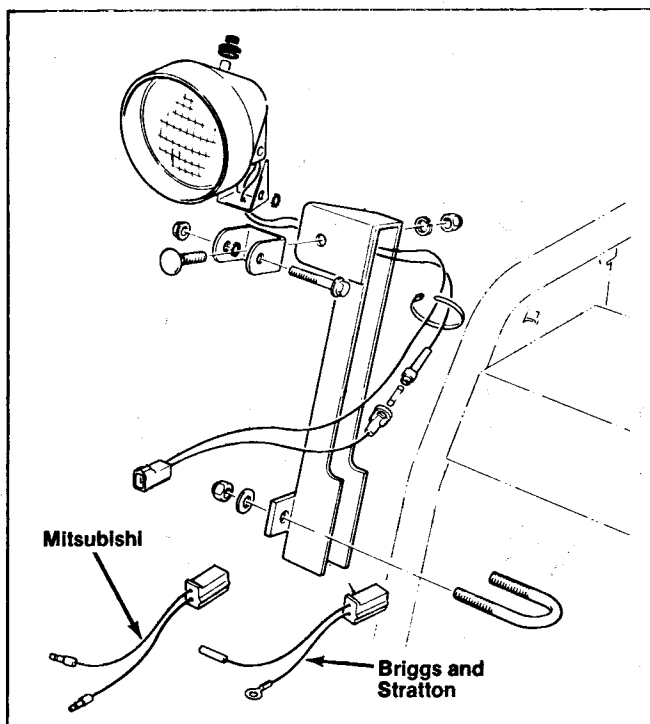

Figure 131
1. Using the U-bolt, washers and nuts supplied in the kit, loosely secure the lamp mount to handle as shown in Figure 131.